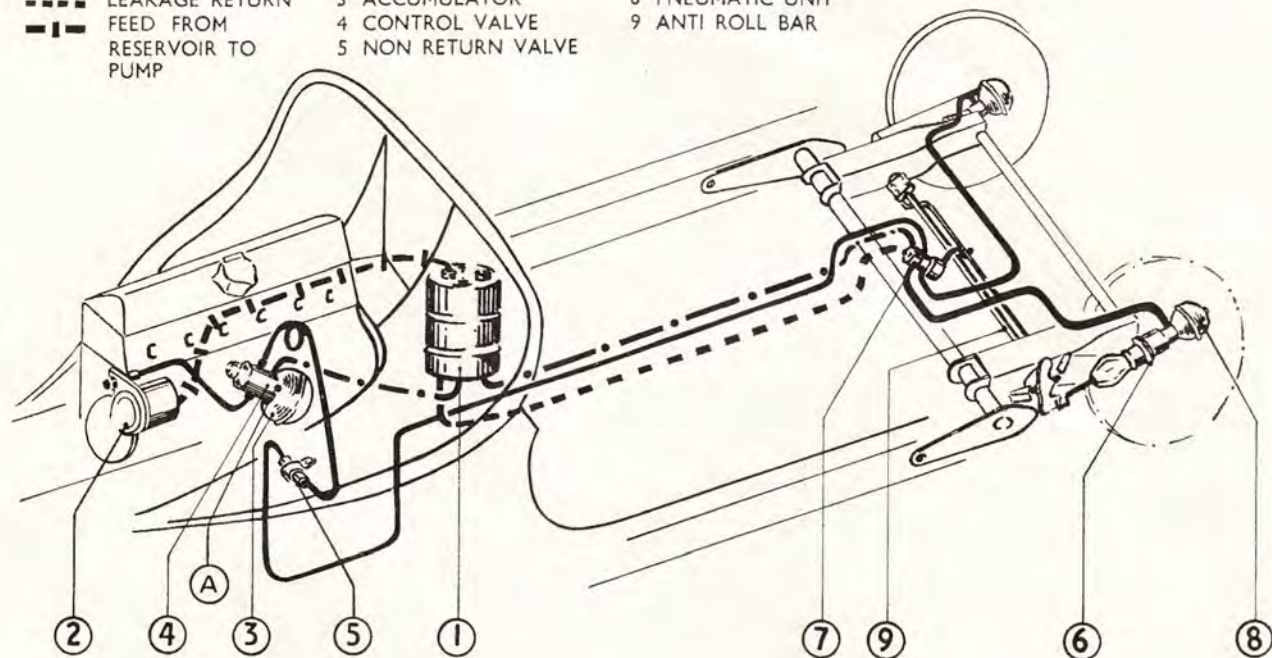

Fig 14
In order to ensure that such work is carried out under conditions of extreme cleanliness all dirt must be removed from a wide area round the point at which the work is to be carried out. All unions must be thoroughly cleaned before disconnection and all pipes plugged with clean plugs immediately they are disconnected. Any oil drained off must be discarded and the system topped up with clean filter oil. **Do not forget that the system is under high pressure** and that the pressure must be released before disconnecting any of the pipes. For this purpose unscrew the bleed screw A on Fig 14.
The general layout of the hydraulic system is shown on Fig. 14. The hydraulic fluid is taken from the reservoir (1) to the high-pressure pump (2) and delivered at high pressure to the accumulator (3). Here it is held at constant pressure by the control valve (4). From the accumulator (3) the flow of the hydraulic fluid to or from the suspension cylinder (6) via